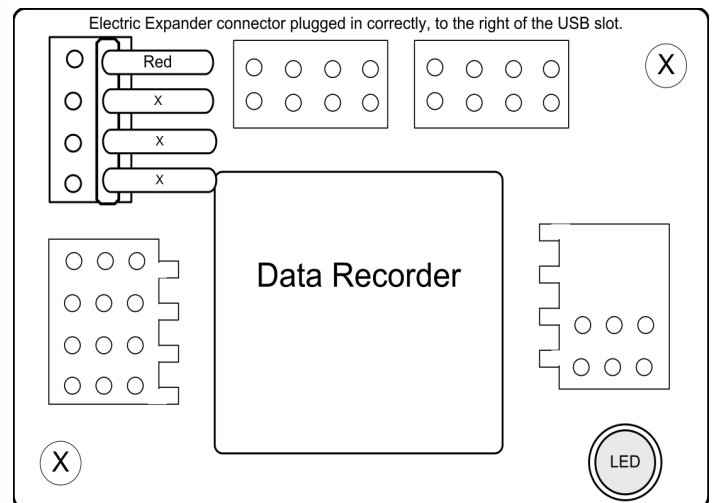

Figure 1b
2) If you have an older Recorder that accepts the 4 pin plug, as shown in Figure 1B below, please carefully trim off the unused pin on the Electric Expander connector, using scissors. Then the connector should plug in as shown in Figure 1B.